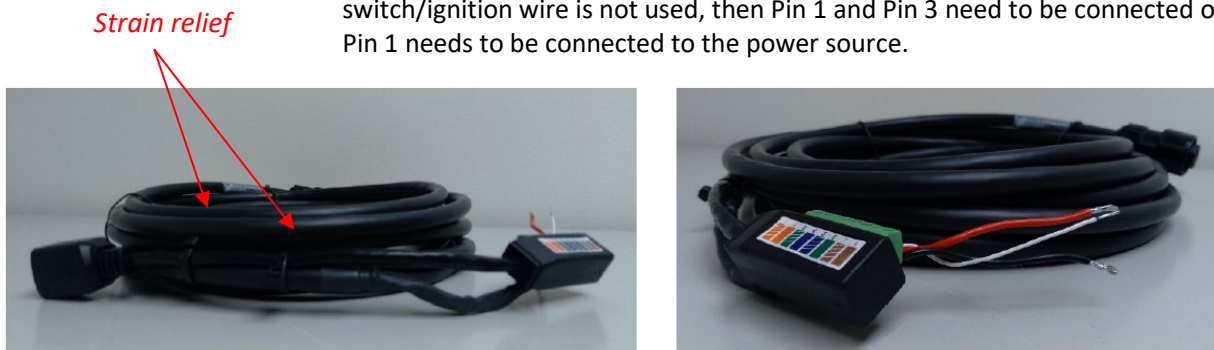

Figure 6. Power cable connected to an RJ45: Final results
- Use tie wraps for strain relief if necessary (see Figure 6).